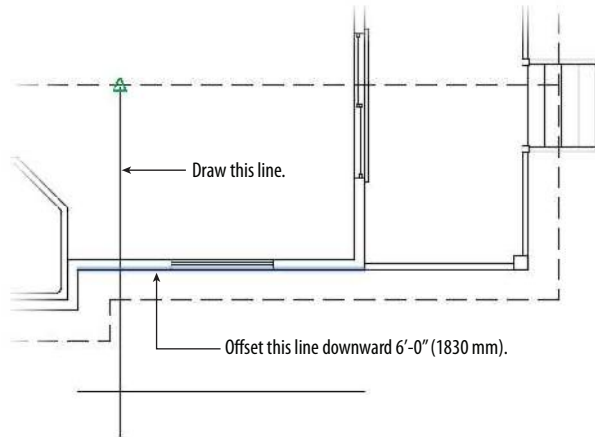

FIGURE 8.8: The new lines created after offsetting the ridgeline and the pop-out
5. Offset the horizontal, outside wall line to the right of the pop-out in the floor plan down 6' (1830 mm), as shown in Figure 8.8.